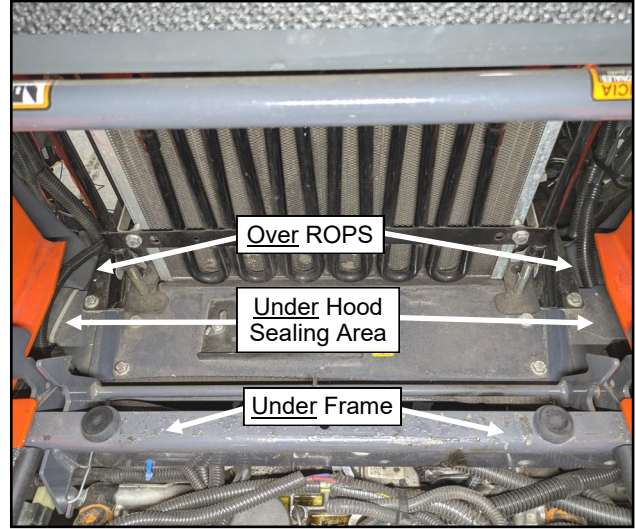

Fig. 7.4 (Route Regulator Power Harness)
7.4. See fig. 7.4. Route the regulator power harness forward over the ROPS tube but below the flat area that the hood seals on when it is closed.